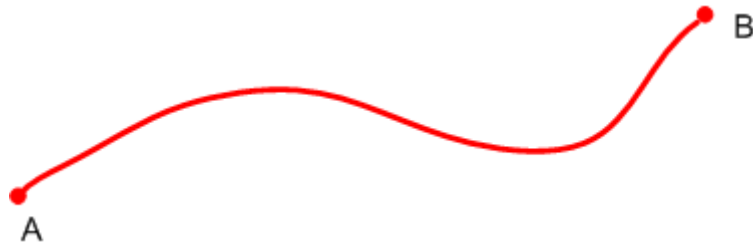

Figure 2.7 Go/MoveJ modes
- **Go/MoveJ**: From point A to point B, each joint will run from an initial angle to its target angle, regardless of the trajectory, as shown in Figure 2.7.